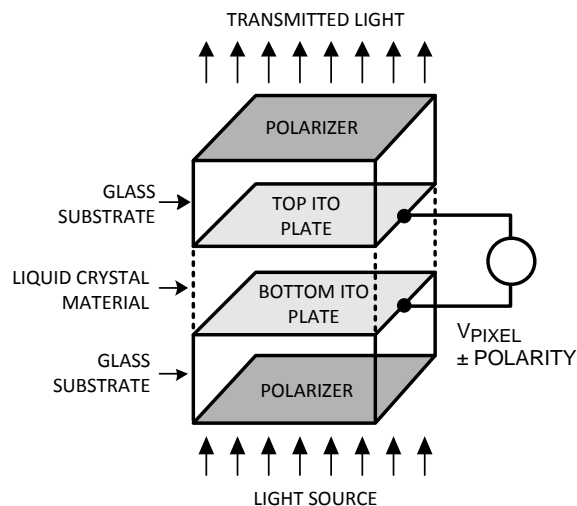

Figure 25. Individual LCD Pixel
To better understand these op amp applications, let's first review a few basic concepts of how a TFT display operates. Figure 25 is a simplified illustration of an LCD pixel. The top and bottom plates of each pixel consist of Indium-Tin oxide (ITO), which is a transparent, electrically conductive material. ITO lies on the inner surfaces of two glass substrates that are the front and back glass panels of a TFT display. Sandwiched between the two ITO plates is an insulating material (liquid crystal) that alters the polarization of light to a lesser or greater amount, depending on how much voltage (V_{PIXEL}) is applied across the two plates. Polarizers are placed on the outer surfaces of the two glass substrates, which in combination with the liquid crystal create a variable light filter that modulates light transmitted from the back to the front of a display. A pixel's bottom plate lies on the backside of a display where a light source is applied, and the top plate lies on the front, facing the viewer. On a Twisted Nematic (TN) display, which is typical of most TFT displays, a pixel transmits the greatest amount of light when V_{PIXEL} is less than $\pm 0.5V$, and it becomes less transparent as this voltage increases with either a positive or negative polarity. In short, an LCD pixel can be thought of as a capacitor, through which, a controlled amount of light is transmitted by varying V_{PIXEL} .